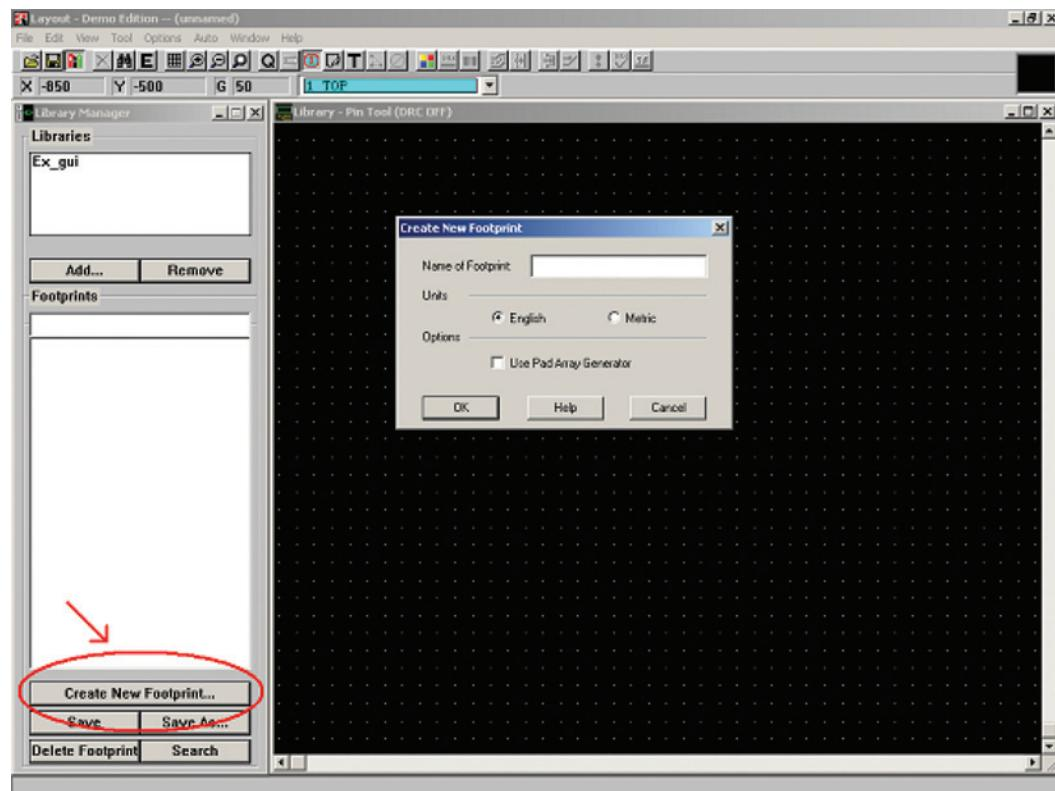

Figure 8-10 Starting a new footprint from the Library Manager.
**To begin a new footprint**, start Layout and from the main session window select **Library Manager** from the **Tools** menu. Click the **Create New Footprint** button at the bottom left of the Library Manager to display the **Create Footprint** dialog box as shown in Fig. 8-10.